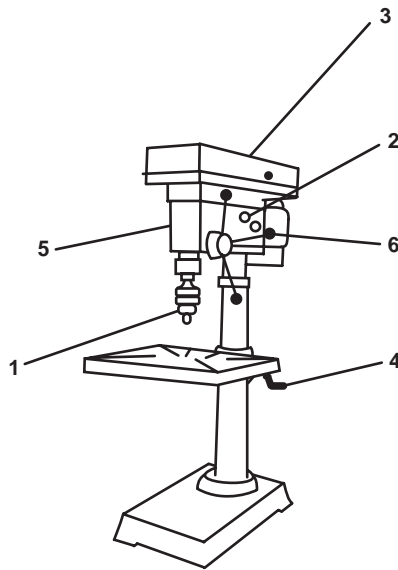

Figure 4. Drill Press
1. At 120V distribution panel No. 1, set the REFRIGERATOR. circuit breaker (figure 4, item 7) to ON.
3. To shut down the refrigerator, set the REFRIGERATOR. circuit breaker (figure 4, item 7) in 120V distribution panel No. 1 to OFF.
1. At 120V distribution panel No. 1, set the FREEZER. circuit breaker (figure 4, item 8) to ON.
3. To shut down the freezer, set the FREEZER. circuit breaker (figure 4, item 8) in 120V distribution panel No. 1 to OFF.
- a. Install the drill bit into the chuck (figure 4, item 1).
- (1) Loosen the slide bar bolts.
- (2) Pull the cam handle (figure 4, item 2) toward the front of the drill press.
- (3) Open the top cover (figure 4, item 3).
- (4) Relocate the belts on the appropriate pulley rings for the desired spindle speed. Refer to the diagram attached to the top cover (figure 4, item 3).
- (5) Close the top cover (figure 4, item 3).
- (6) Push the cam handle (figure 4, item 2) toward the motor.
- (7) Tighten the slide bar bolts.
- (1) Loosen the column lock handle.
- (2) Turn the table crank handle (figure 4, item 4) to the desired height.
- (3) Tighten the column lock handle.
- (1) Set the M (motor) power switch (figure 4, item 5) to ON.
- (2) Set the L (light) switch (figure 4, item 5) to ON.
- (3) Turn the handle (figure 4, item 6) to lower the bit and drill the hole.
- a. Raise the spindle to the UP position by turning the handle (figure 4, item 6).
- b. Turn off the drill press by setting the M and L power switches (figure 4, item 5) to OFF.